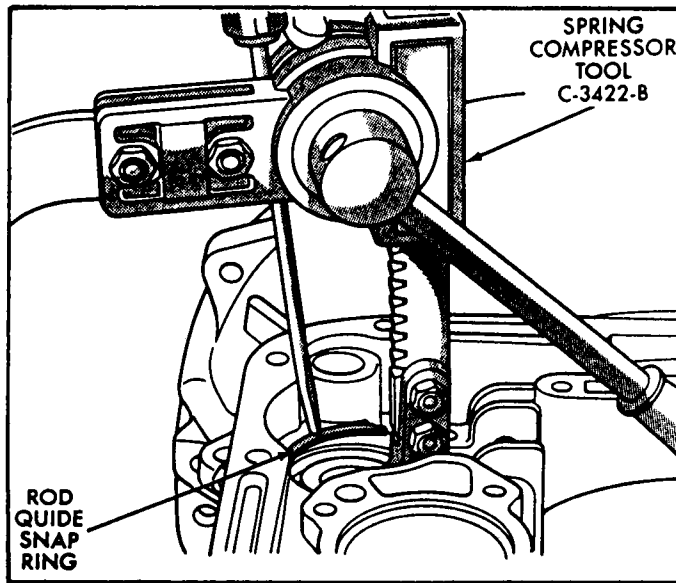

Figure 30
47. Compress front servo rod guide about 1/8" with compressor, as shown in Figure 30, and remove snap ring.